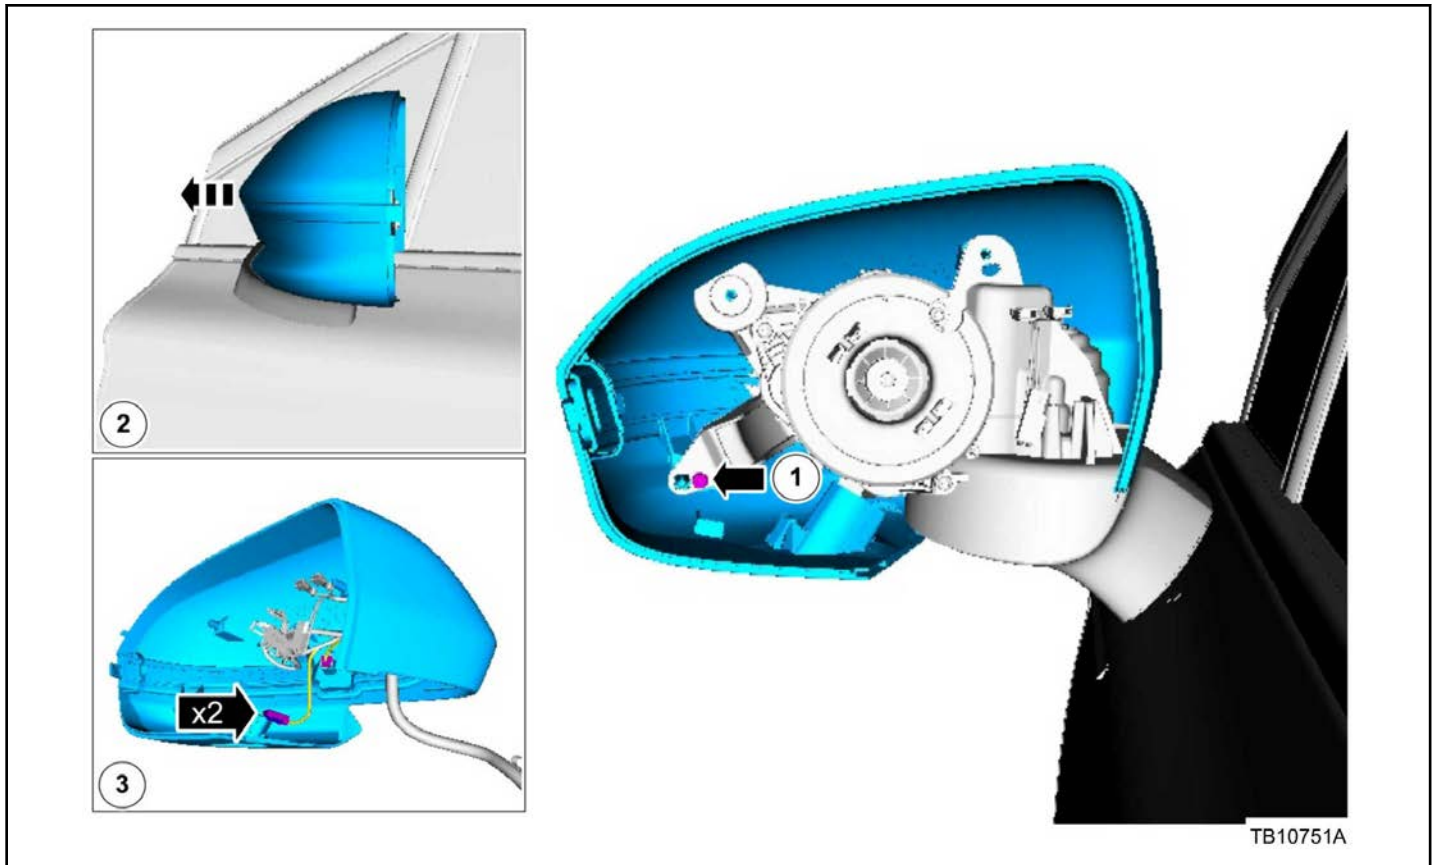

Figure 4 - Article 16-0058
4. Remove the screw and position the mirror cover aside. (Figure 4)